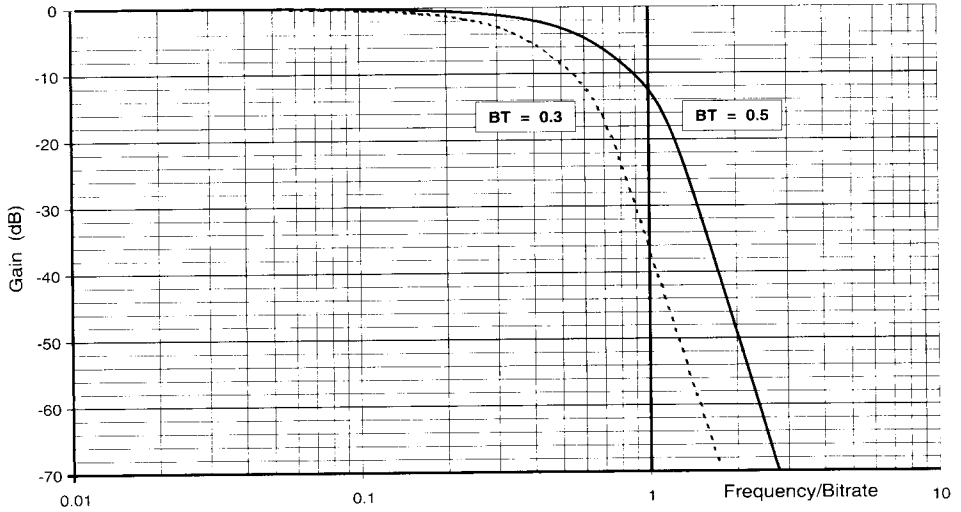

Figure 9 - TX Filter Response
The TX Filter has a lowpass frequency response, which is approximately gaussian in shape as shown in Figure 9, to minimize amplitude and phase distortion of the binary signal while providing sufficient attenuation of the high frequency-components which would otherwise cause interference into adjacent radio channels. The actual filter bandwidth to be used in any particular application will be determined by the overall system requirements. The attenuation-vs-frequency response of the transmit filtering provided by the MX489 have been designed to meet the specifications for most GMSK modem systems, having a -3dB bandwidth switchable between 0.3 and 0.5 times the data bit-rate (BT).